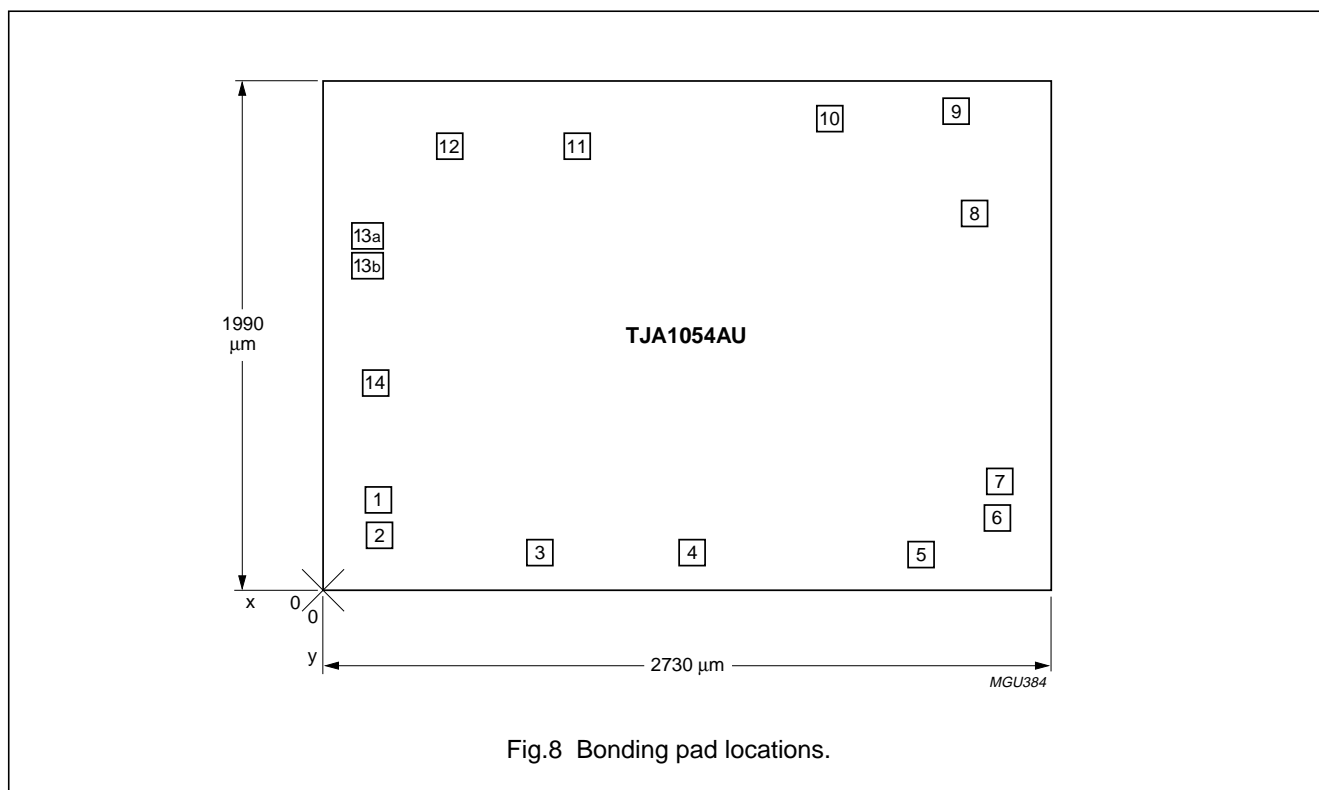

Fig.8 Bonding pad locations.
1. All coordinates (µm) represent the position of the centre of each pad with respect to the bottom left-hand corner of the top aluminium layer (see Fig.8).